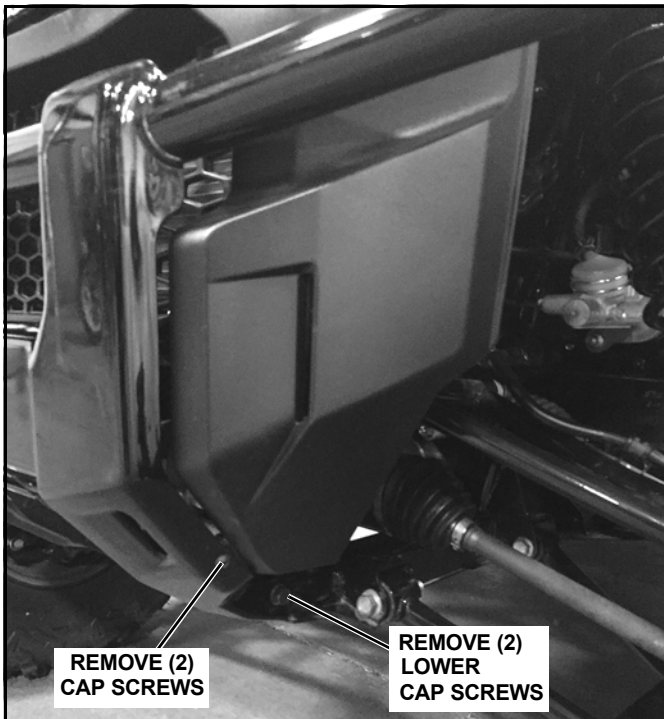

Figure 1
1. Remove the Cap Screw holding the plastic side shield to the bumper/brush guard on the side of the UTV (one on each side). (See Figure 1.)
2. Remove the two Lower Cap Screws holding the bumper/brush guard to the frame (one on each side). (See Figure 1.)